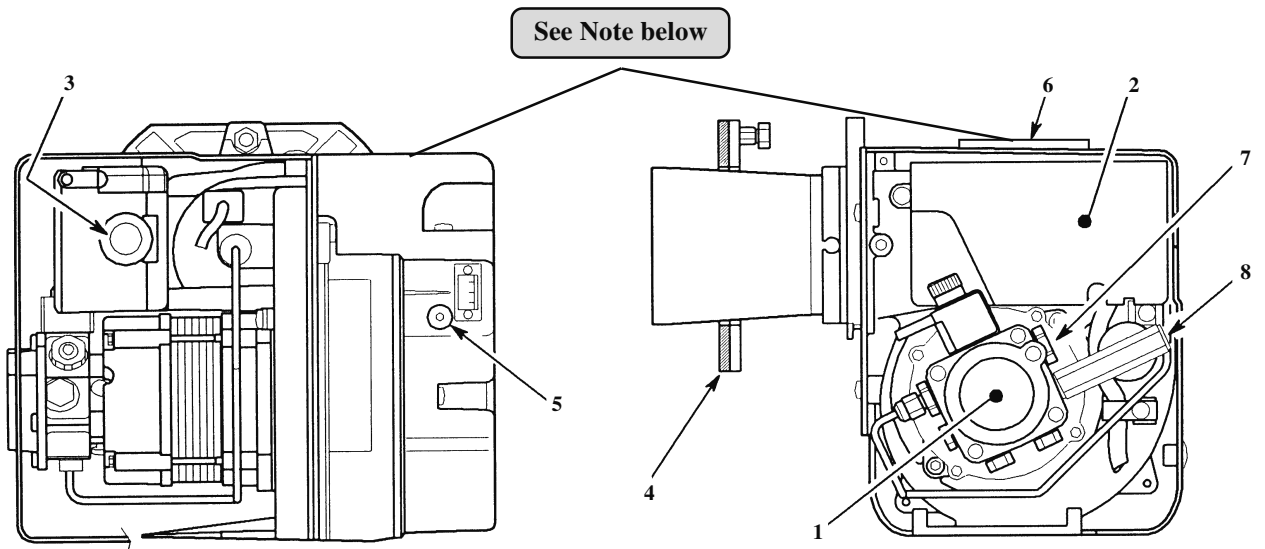

Fig. 17 - RDB burner components
- 5 Connect a combined vent manifold and pressure gauge to the pressure gauge connection port on the oil pump. See Fig. 17. Open the vent screw on your vent manifold to vent the supply while the pump is running.
- 8 With the burner alight, check the fuel pressure. Refer to the Technical Information, Section 3.3. Adjust the pressure if necessary - see Fig. 17.
Use the hexagonal key supplied to adjust the burner air damper (see Fig. 17) as required. Turning the screw anti-clockwise closes the damper and increases CO₂ level, turning the screw clockwise opens the damper and reduces CO₂ level. Re-check the smoke number if the damper has been moved. Under no circumstances must the smoke number be above 1.